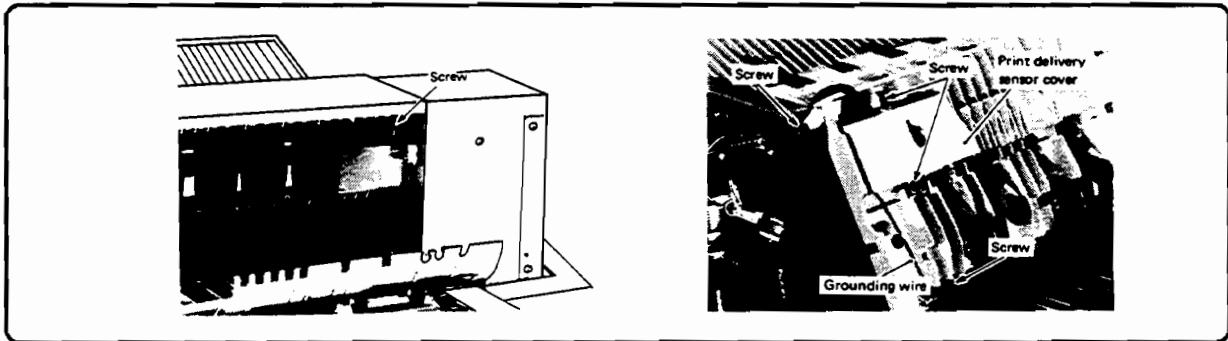

Figure 6-114. Stacker Top Door Removal
1. Open the stacker right door. At the extreme upper right corner, remove the screw holding the top door retaining strap (one screw - Figure 6-114).
3. Open the top door; then remove the screw (one) securing the grounding wire of the static charge eliminator and the screws (two) securing the main tray print delivery sensor cover (Figure 6-114).